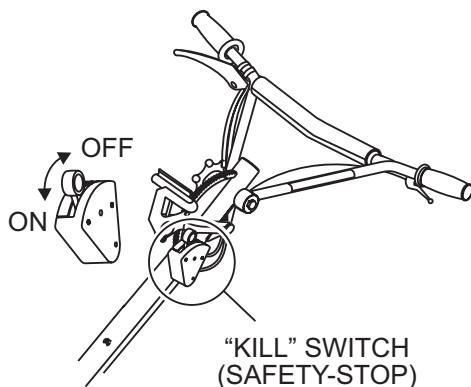

Figure 25. Centrifugal "Kill" Switch
3. Place the **centrifugal "kill" switch** (Figure 25) in the "**ON**" position. For models that use this feature.